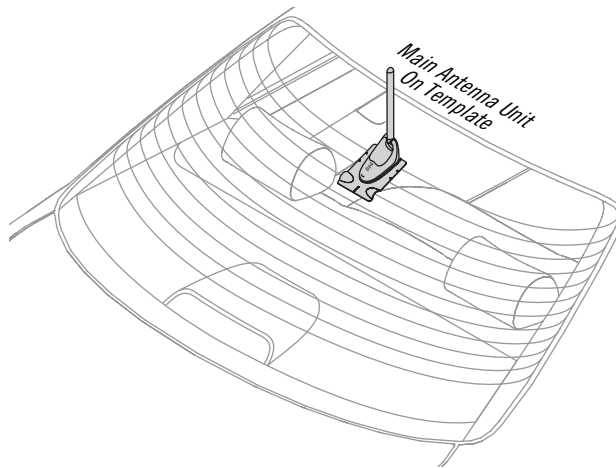

Figure 9. Placing the Main Antenna Unit on an Installation Template.
- Without removing its protective backing, carefully place the Main Antenna Unit within the template, as shown in Figure 9 below.